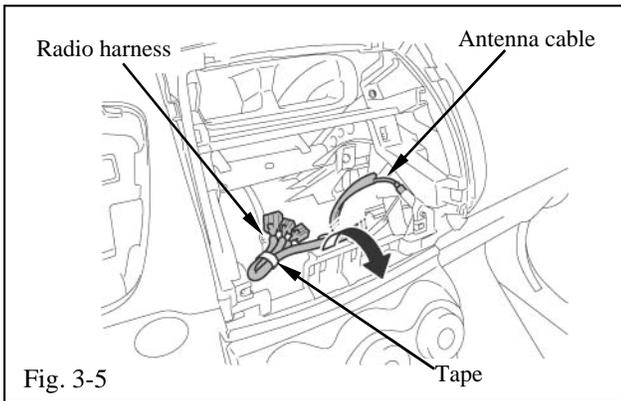

Fig. 3-5
- (1) Remove the tape securing the radio harness (Fig. 3-5).
- (2) Pull the antenna cable out from the instrument panel hub (Fig. 3-5).